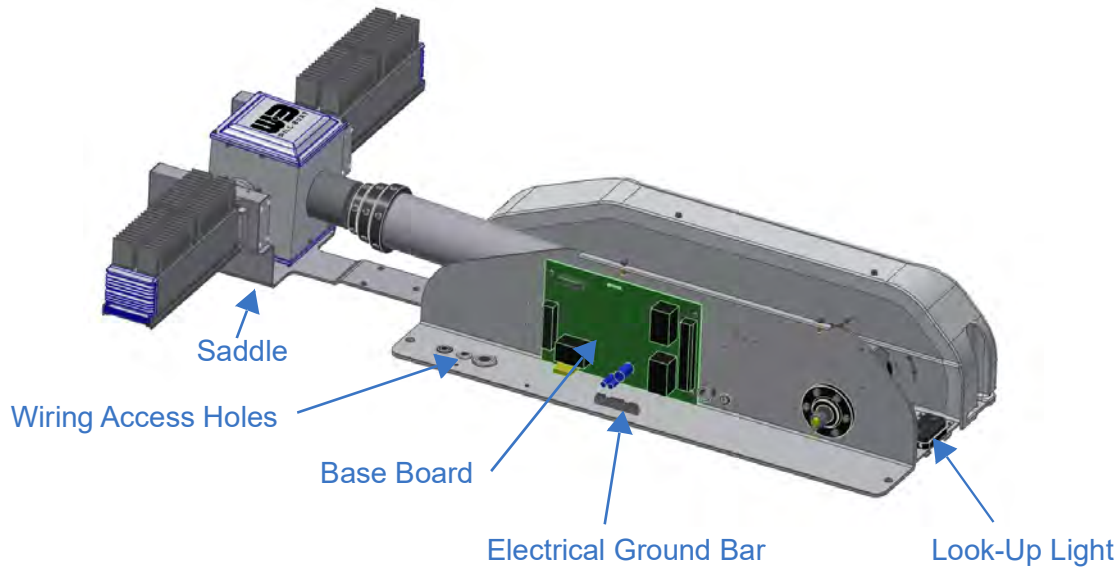

Figure 3-6 Night Scan Chief Components (Left Cover Removed)
3. The mounting location needs to have access holes to install the necessary wiring through the access holes in the bottom of the mast base (see Figure 3-6 for location of holes).